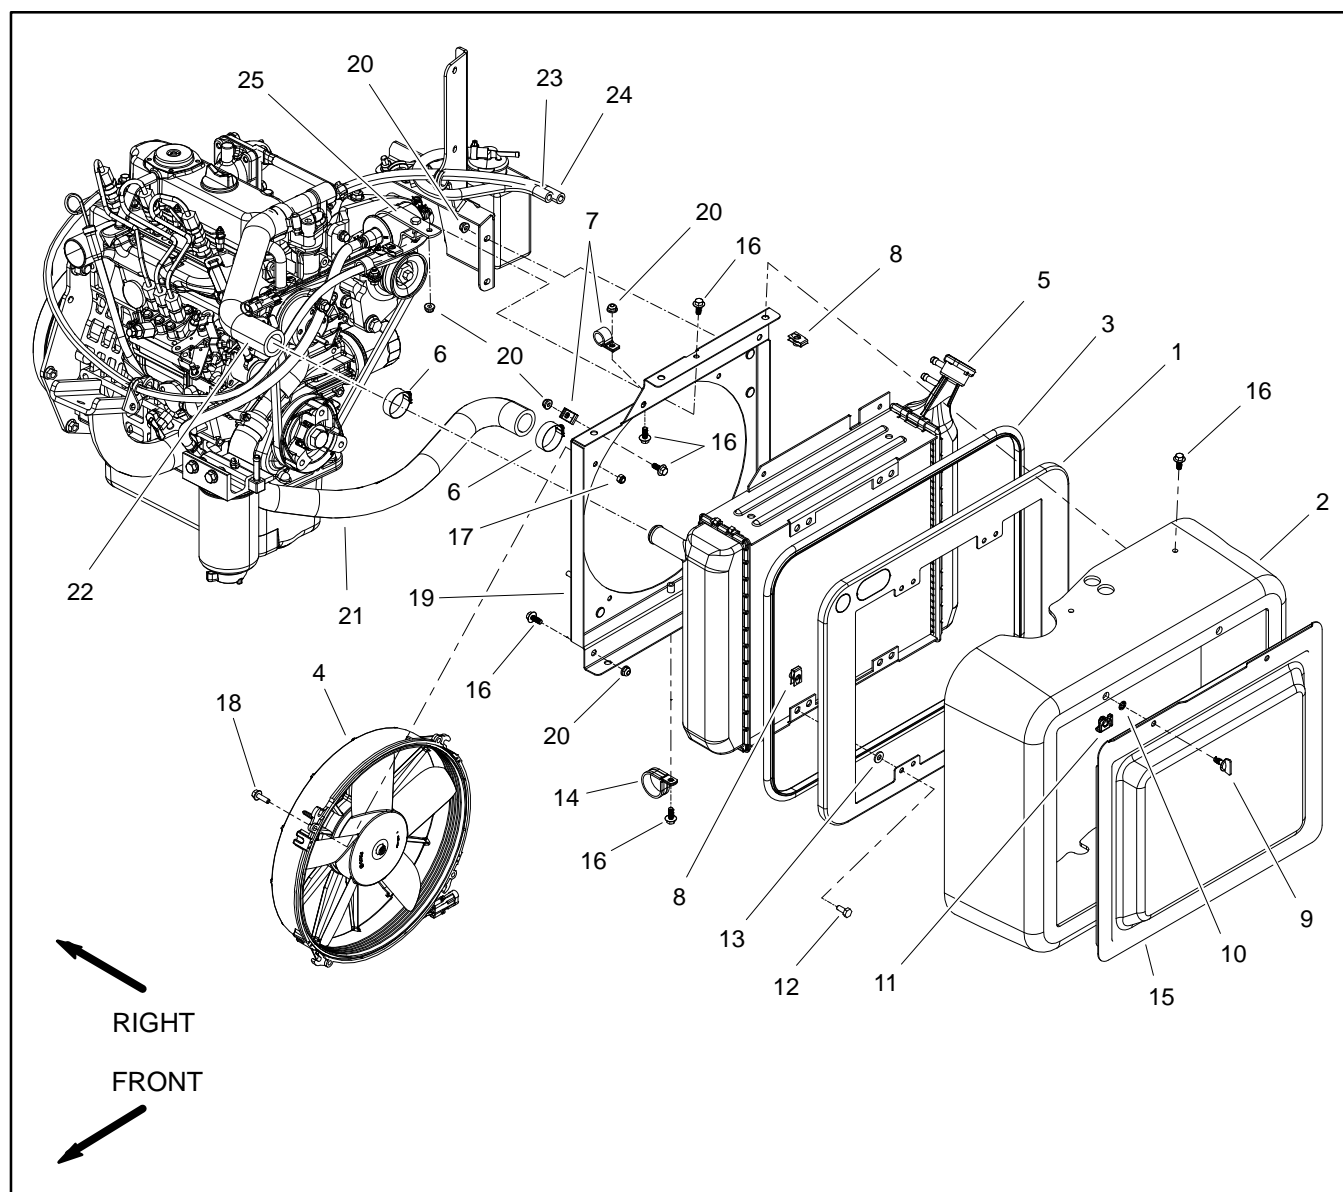

Figure 8
## Radiator Removal (Fig. 8)
5. Remove four (4) flange head screws (item 16) that secure radiator shroud (item 2) to radiator assembly. Remove radiator shroud.
6. Remove flange head screw that secures R-clamp (item 14) to bottom of front shroud (item 19).
- A. Loosen hose clamps and disconnect breather hose (item 23) and overflow hose (item 24) from radiator filler neck.
- B. Loosen hose clamps (item 6) and disconnect upper and lower radiator hoses (items 22 and 21).
8. Locate splice fitting in fuel return hose near fuel pump. Disconnect one of the return hose sections from splice fitting and remove return hose from both r-clamps (item 7) on front shroud (item 19).
12. Remove four (4) flange nuts that secure front shroud to machine. Remove radiator assembly from machine.
13. Remove components from radiator as necessary using Figure 8 as a guide.
## Radiator Installation (Fig. 8)
1. Assemble all removed components to radiator using Figure 8 as a guide.
2. Position radiator assembly to machine. Secure front shroud to machine with four (4) flange nuts.
5. Slide fuel return hose through both r-clamps (item 7) on front shroud (item 19). Connect return hose sections at splice fitting and secure with hose clamp.
- A. Upper and lower radiator hoses (items 22 and 21).
- B. Breather hose (item 23) and overflow hose (item 24) to radiator filler neck.
7. Secure R-clamp (item 14) to bottom of front shroud (item 19).
8. Secure radiator shroud (item 2) to radiator assembly with four (4) flange head screws (item 16).
9. Install screen (item 15) to radiator shroud.